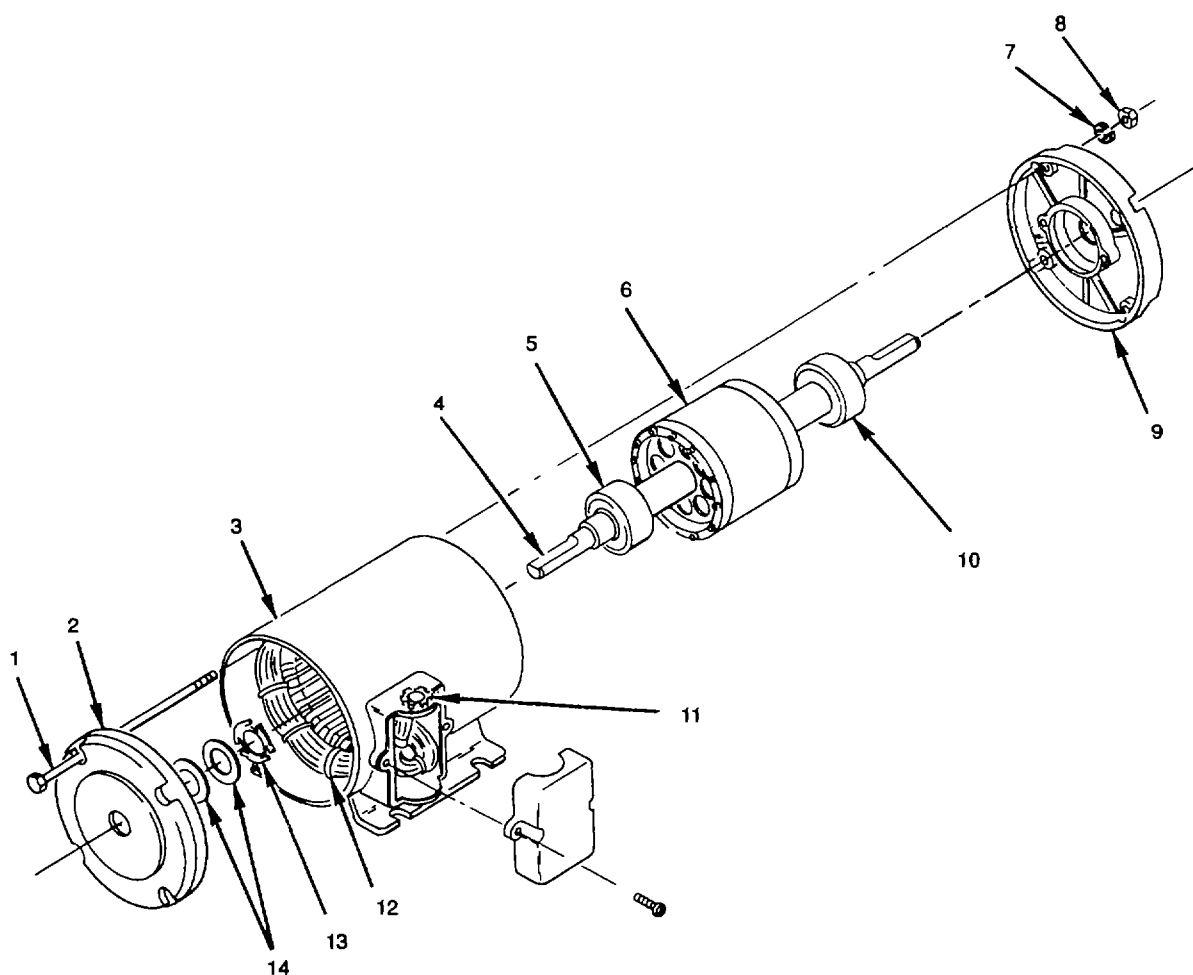

Figure 5-1. Evaporator Motor (B2)
- a. Match-mark motor frame (3) and end caps (2) and (9) (see fig 5-1)
- b. Remove four end cap nuts (8), lockwashers (7) and through bolts (1)